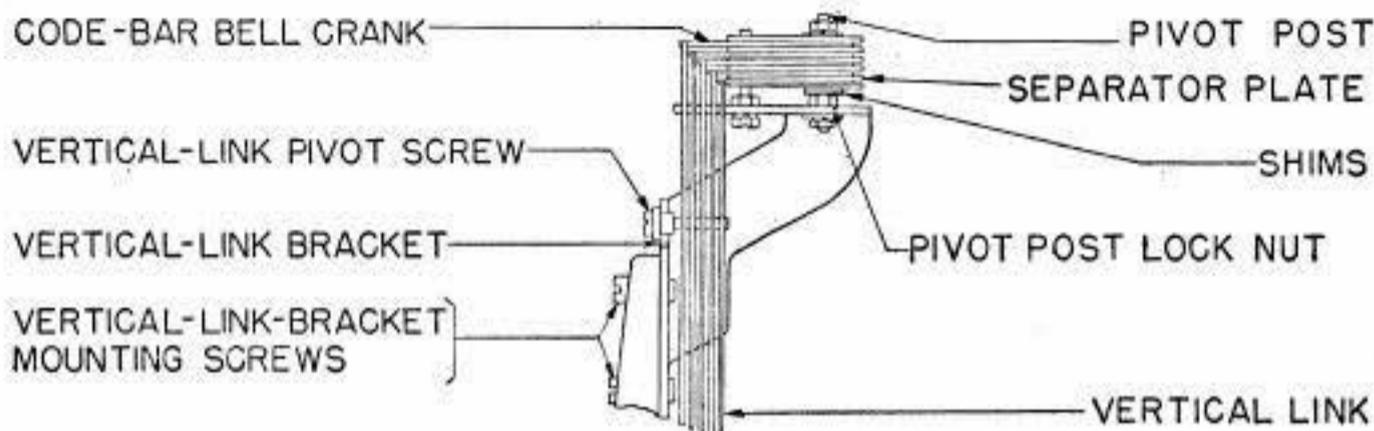

Fig. 10
- (a) The codebars should move freely between the codebar bellcrank separator plates. **Fig. 10**